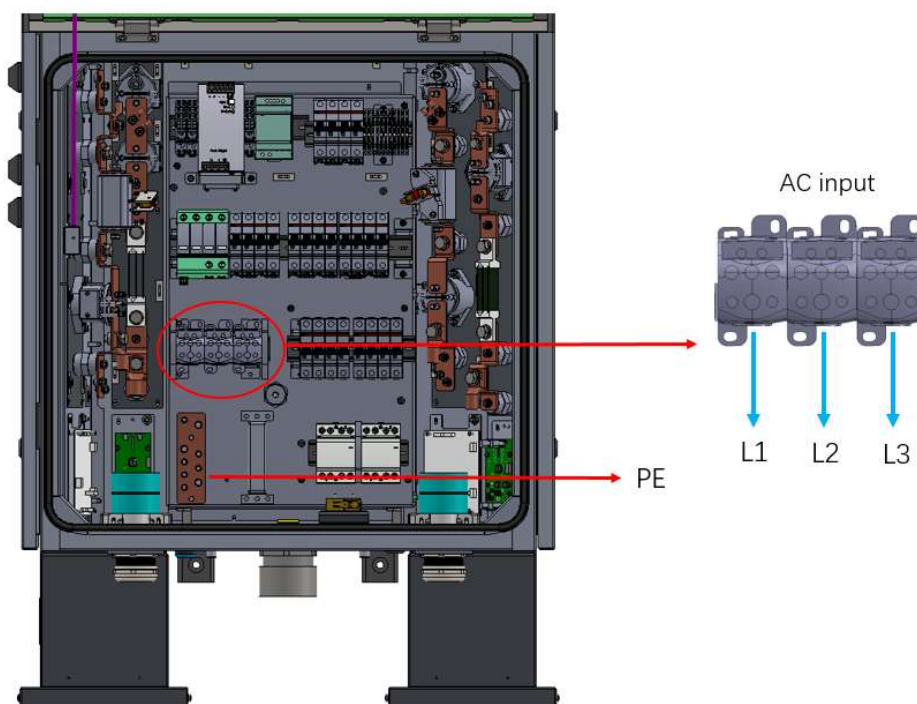

Figure 15 Wiring diagram
(8) Wiring: Insert the power cable into the charger main body from the cable gland on the bottom. Connect the L1 \ L2 \ L3 three-phase to the corresponding incoming terminals, and the PE wire to the PE copper bar. Refer to Figure 15, the phase sequence shall not be incorrect.